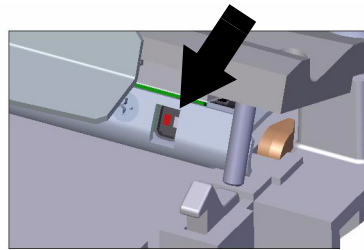

Figure 3: Queue sensor
- ◆ Using AAMI EC11 Fig. 3 test circuits with a calibrated source:
- a. Create 1 mV Cal pulse by setting the signal source in Fig. 3 to 1 volt +/- 1% with a rise time no greater than 5mS and ensure S5 is open while S1 and S2 are closed. Also ensure S3 is set to position “a”.